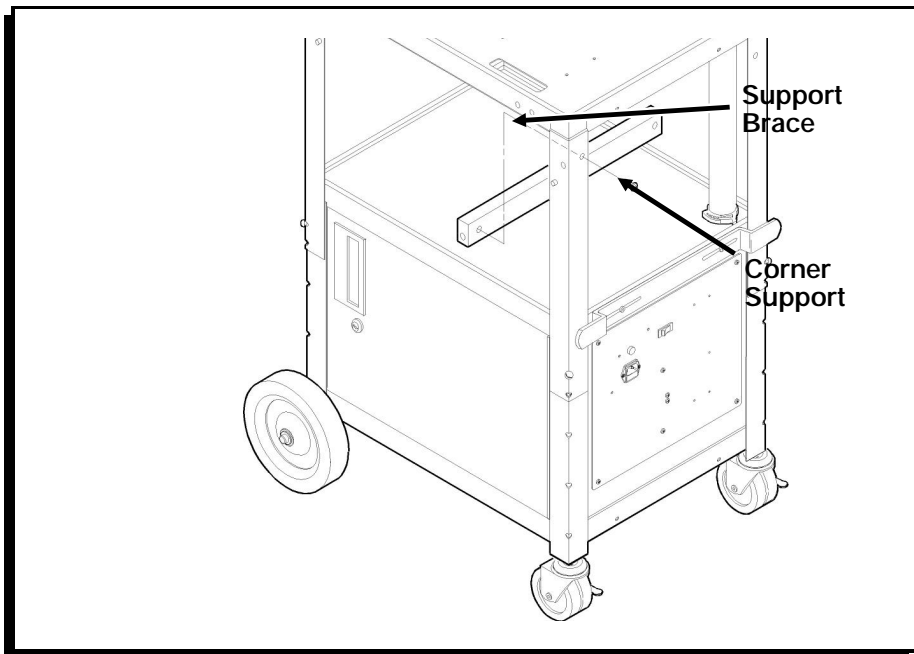

Figure 6
2. Attach the support brace to the Station's corner supports on either the front or the rear of the Station using two 1/2" phillips screws. The open side of the support brace must face down. (Figure 6.)